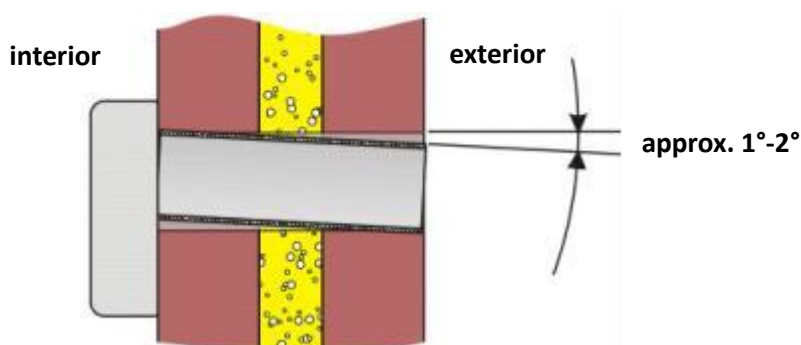

Figure 3
2. Drill a 117mm diameter hole in the wall for the heat exchanger. Set a slope of approximately 1°-2° downwards from the fan (Figure 3).